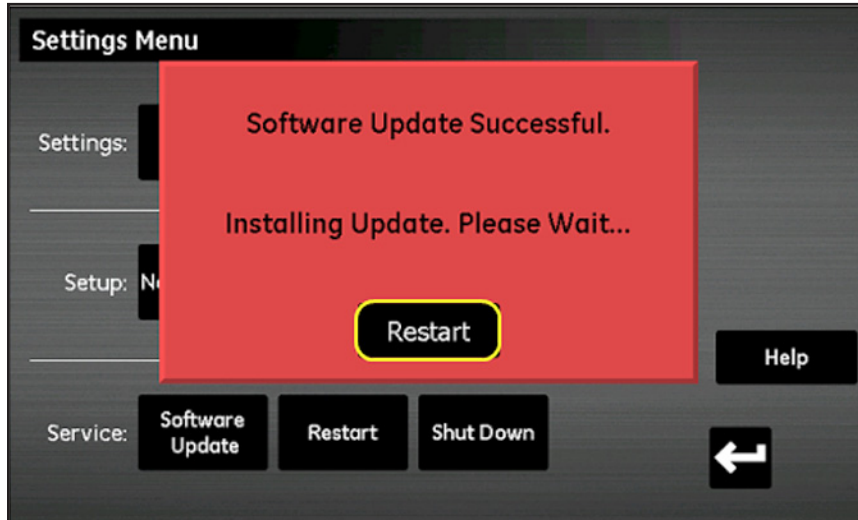

Figure 90: Restart Screen
7. After the software update is complete, the meter prompts you to restart the meter (see *Figure 90* below). Tap the **Restart** button to reboot the moisture.IQ.